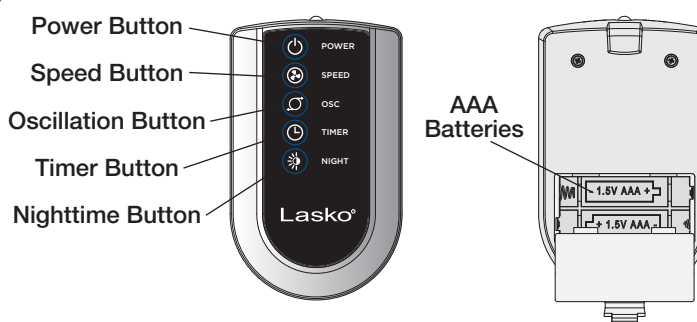

Figure 5
1. Install two "AAA" batteries (not included) as shown in Figure 5.